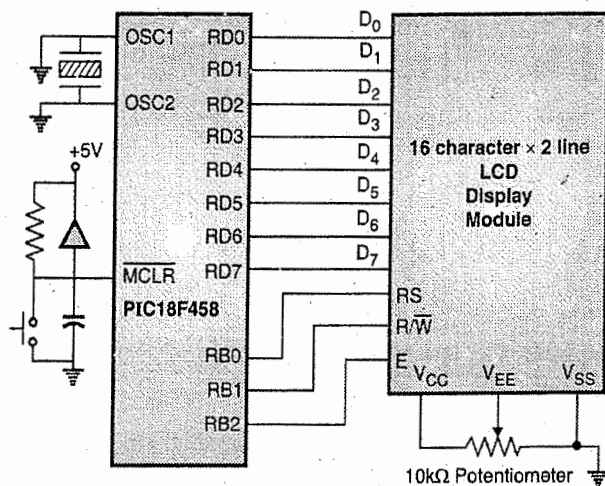

Fig. P. 10.6.1 : Interfacing 16  $\times$  2 LCD to PIC18
Fig. P. 10.6.1 shows the interfacing of a 16 character  $\times$  2 line LCD module with the PIC microcontroller. The data lines are connected to Port D of microcontroller. The control lines RS,  $R/\bar{W}$  and E are driven by Port B lines RB0, RB1 and RB2.
**Soln. :** Fig. P. 10.6.1 shows the interfacing diagram.